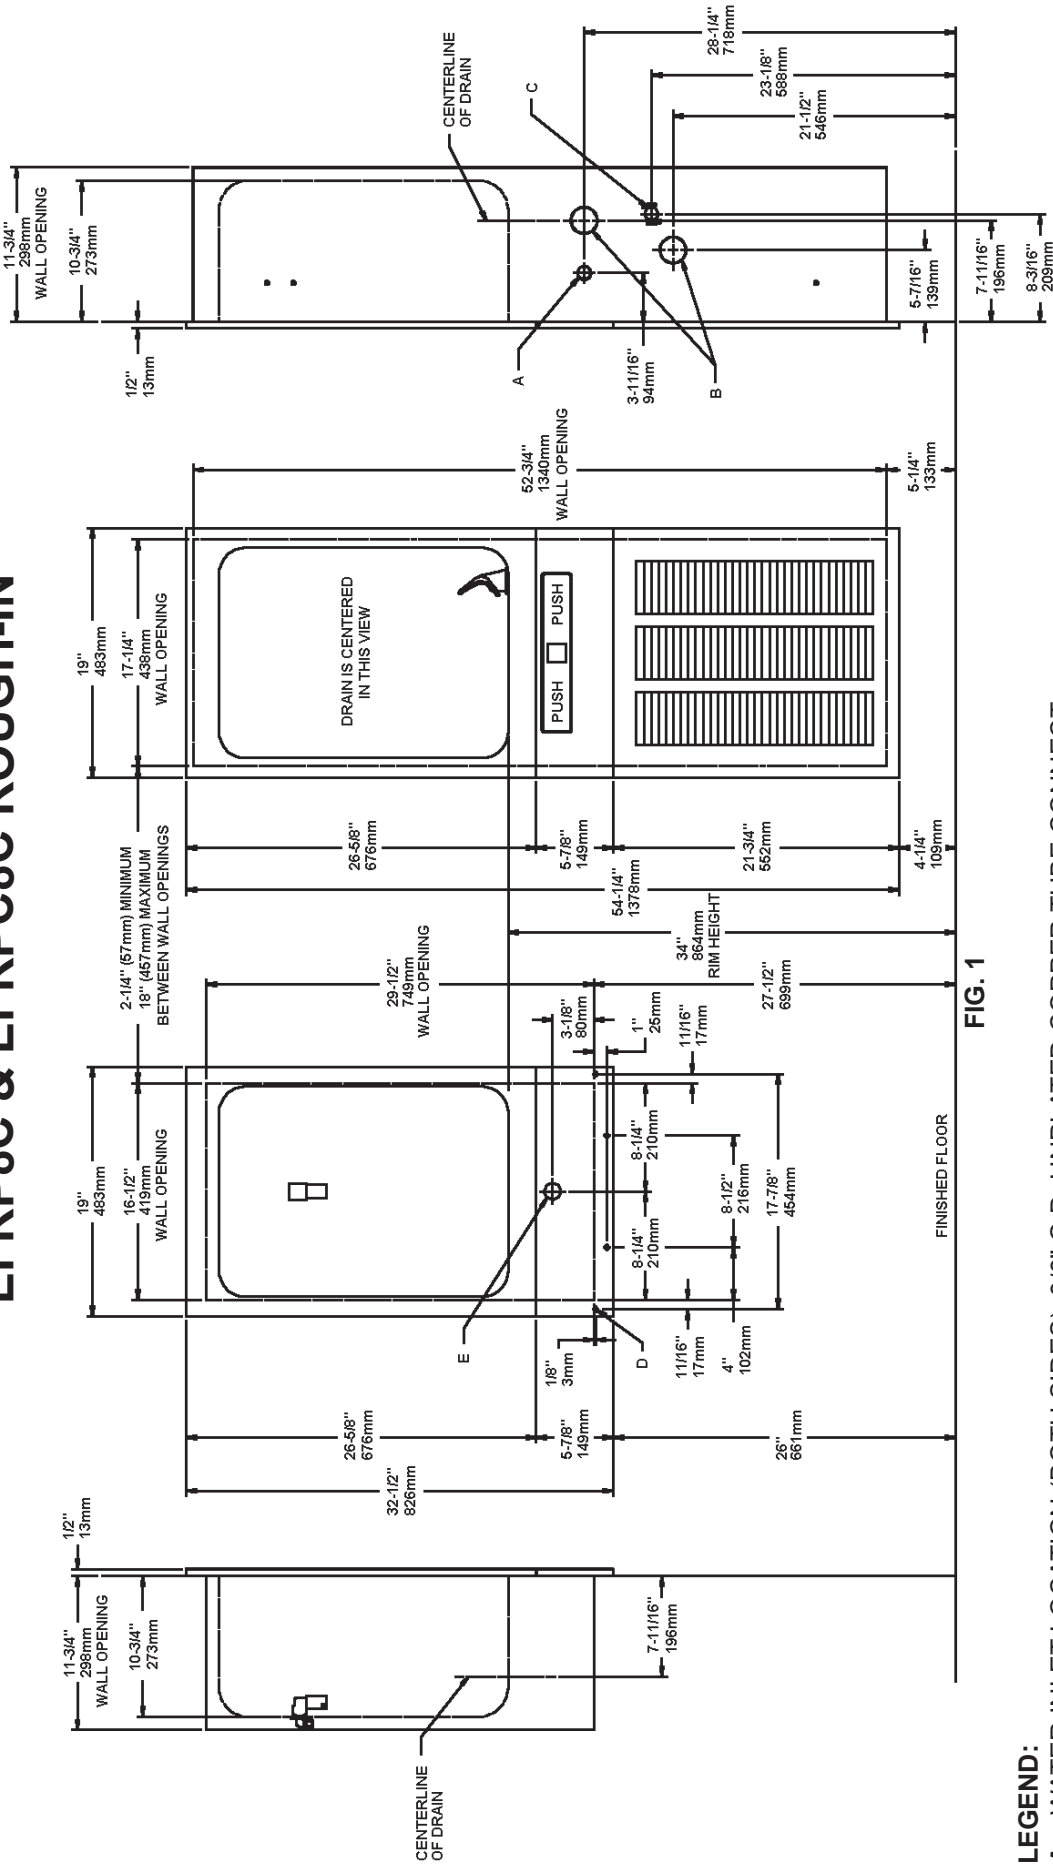

FIG. 1
1. **Wall should already be framed for the fountain using dimensions shown in Fig. 1.**